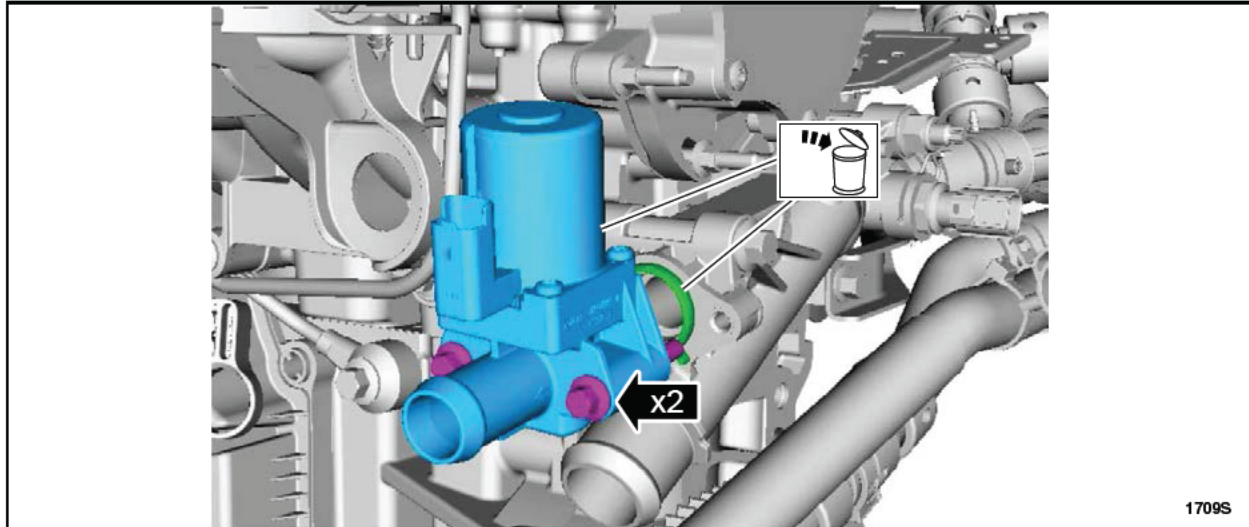

FIGURE H3
4. Remove the bolts from the engine coolant bypass valve. Remove and discard the valve and O-ring seal. See Figure H3.